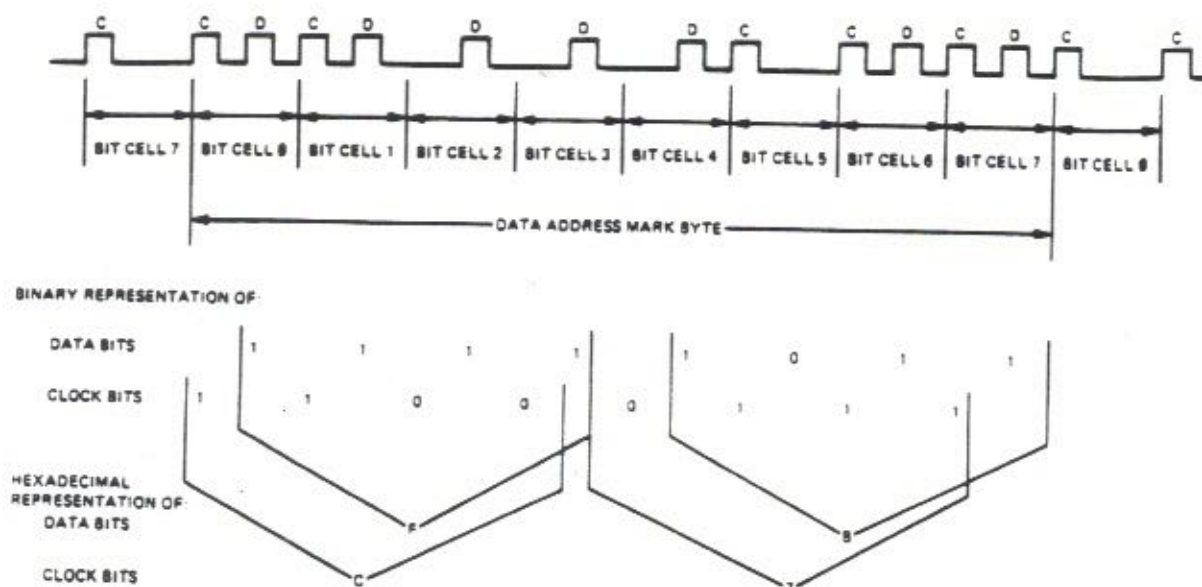

FIGURE 7 DATA ADDRESS MARK
The Data Address Mark byte is located at the beginning of each normal Data Field on the Micro Wafer (TM). The bit configuration for this Address Mark is shown in figure 7.